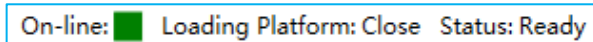

Figure E-3.1 View Submenu - Instrument Information Area
- ▶ If users check the *Show Instrument Information* option in the *View* submenu, the instrument information area will be displayed on the top right corner of main interface to remind users the current status of the connected instrument, as shown in figure E-3.1.